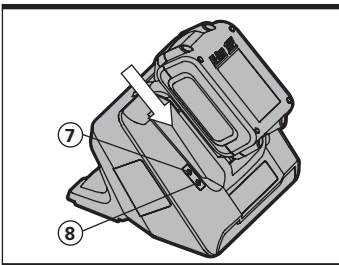

Fig 2
7. CHARGED INDICATOR LIGHT (GREEN) (SEE FIG 2)
8. CHARGING INDICATOR LIGHT (RED) (SEE FIG 2)
3. Charge the battery pack (See Fig.2)